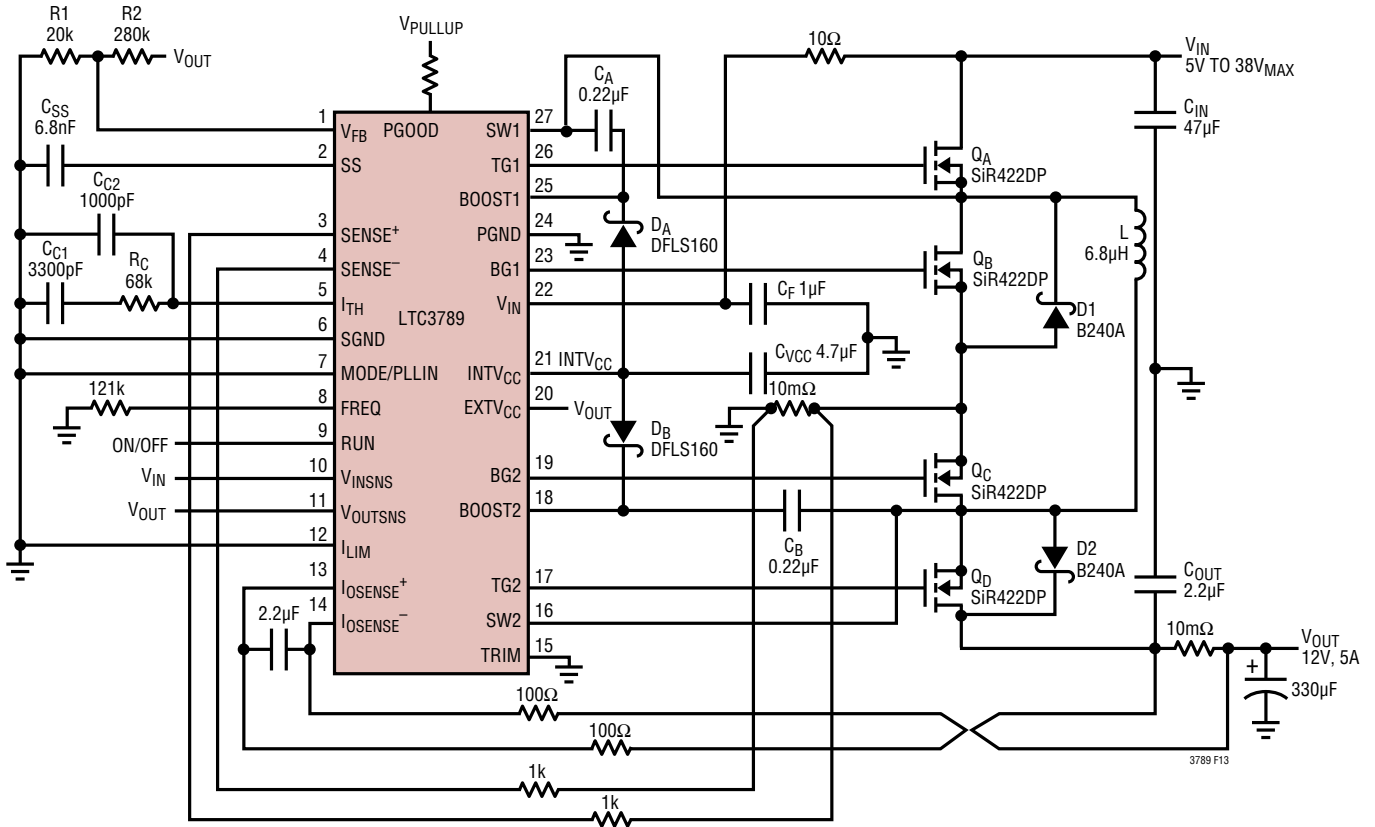

Figure 13. LTC3789 12V/5A, Buck-Boost Regulator
Referring to Figure 13, the external bootstrap capacitors C_A and C_B connected to the BOOST1 and BOOST2 pins supply the gate drive voltage for the topside MOSFET switches A and D. When the top switch A turns on, the switch node SW1 rises to V_{IN} and the BOOST1 pin rises to approximately $V_{IN} + INTV_{CC}$. When the bottom switch B turns on, the switch node SW1 drops to low and the boost capacitor C_A is charged through D_A from $INTV_{CC}$. When the top switch D turns on, the switch node SW2 rises to V_{OUT} and the BOOST2 pin rises to approximately $V_{OUT} + INTV_{CC}$. When the bottom switch C turns on, the switch node SW2 drops to low and the boost capacitor C_B is charged through D_B from $INTV_{CC}$. The boost capacitors C_A and C_B need to store about 100 times the gate charge required by the top switches A and D. In most applications, a 0.1μF to 0.47μF, X5R or X7R dielectric capacitor is adequate.
- Flood all unused areas on all layers with copper. Flooding with copper will reduce the temperature rise of power components. Connect the copper areas to any DC net (V_{IN} or GND). When laying out the printed circuit board, the following checklist should be used to ensure proper operation of the LTC3789. These items are also illustrated in Figure 13.
| | | Updated Figure 13. | 26 |